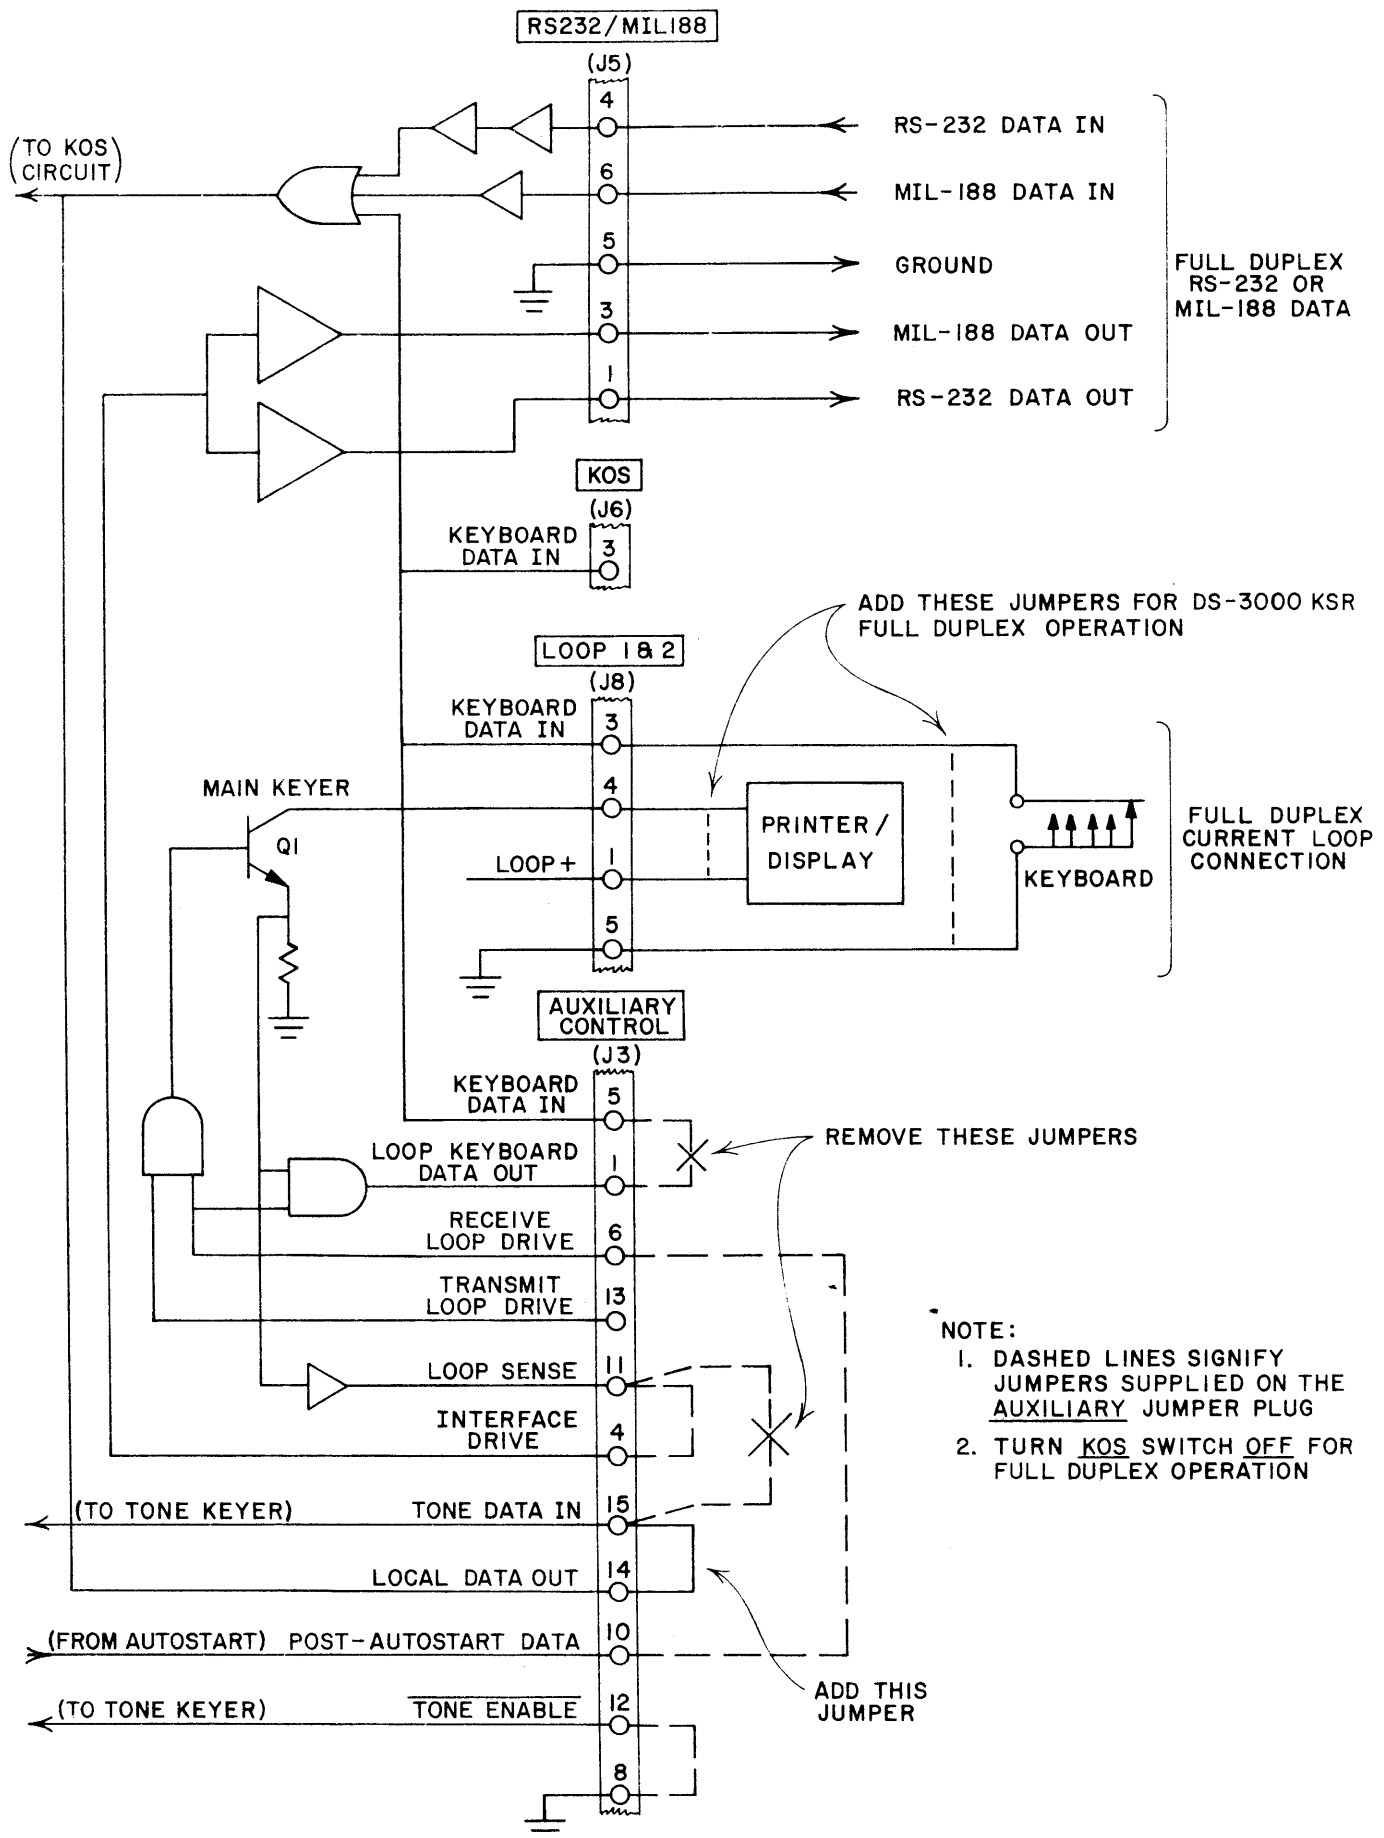

Figure 3.6 Connections to the ST-6000 for Full-duplex Operation
1. Refer to Figure 3.6 and modify the Auxiliary Jumper Plug circuit board as shown, removing the circuit board jumpers between pins 1 and 5 & between pins 11 and 15; add a wire jumper between pins 14 and 15.
transmit data circuits to use a "full-duplex" mode of operation. To connect the ST-6000 for full-duplex operation, remove the jumpers on the AUXILIARY jumper plug between pins 1 and 5 and between pins 11 and 15. Add a jumper to the AUXILIARY jumper plug between pins 14 and 15. The separate keyboard should now be connected as described above in section 3.3.3. Received data will now be displayed on the printer or visual display system but will NOT key the tone keyer section. Keyboard data will trigger the KOS circuit and key the tone keyer section. The same connections can be used for full-duplex operation with either RS-232 or MIL-188 signal levels if the appropriate connections on the rear panel connector are selected. Connection of the separate keyboard, and full-duplex jumpers are shown in Figure 3.6. Since the KOS circuit also places the ST-6000 in standby condition, KOS should be switched OFF for true full-duplex operation.